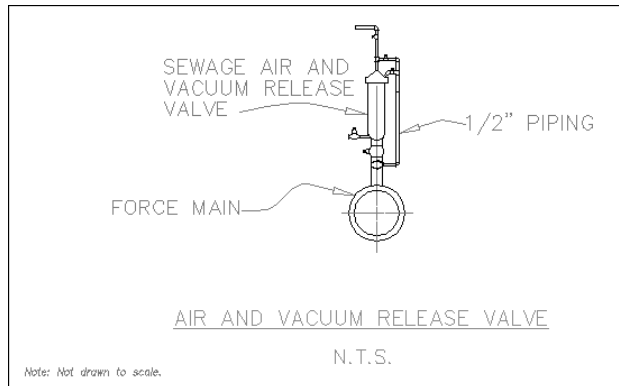

**Figure 13-14:** The addition of text using a new text style.
6. Save your drawing. It should look like Figure 13-14. If you're going on to the next exercise, keep this drawing open.